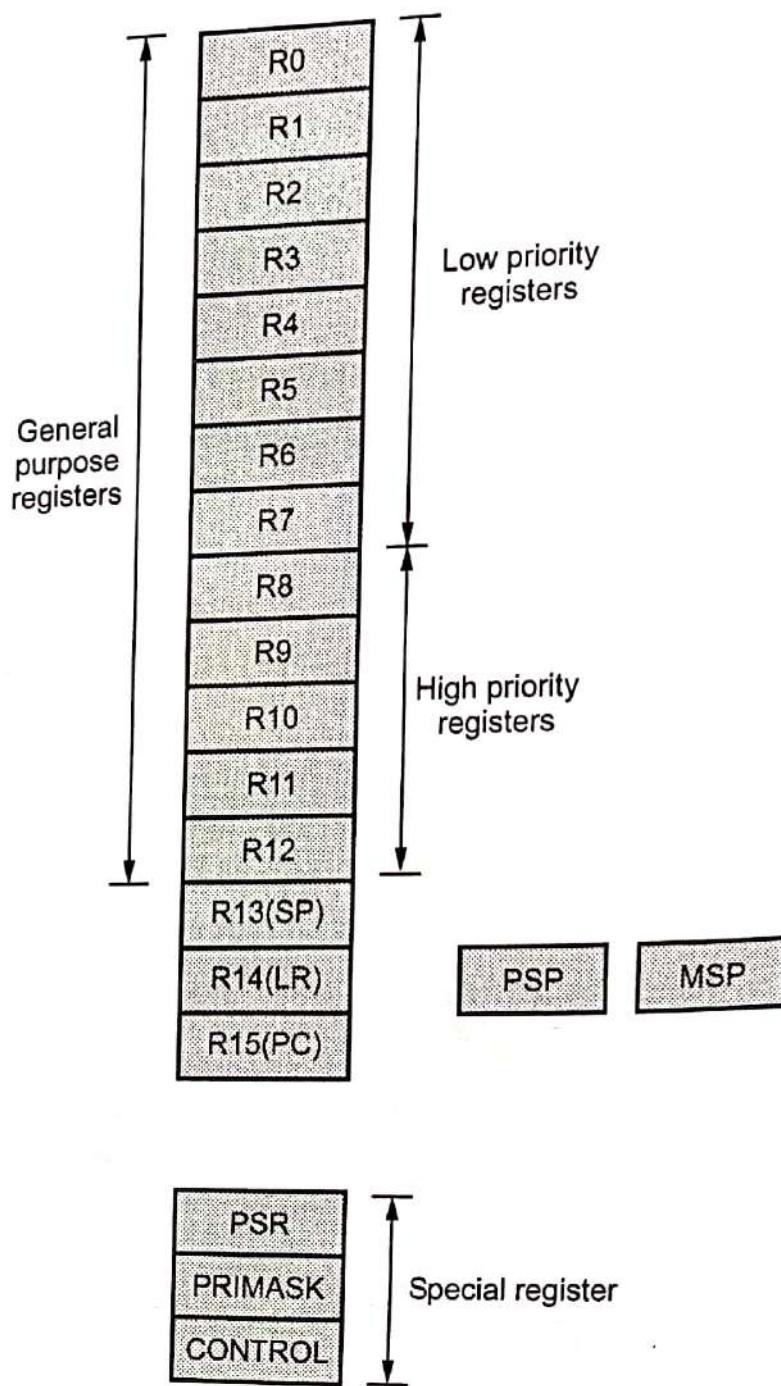
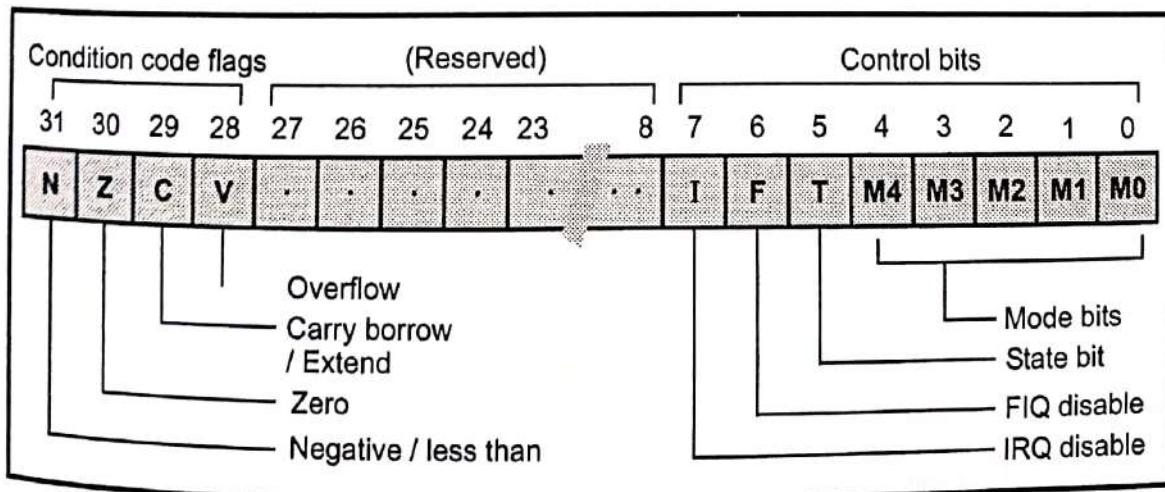

Fig. 2.5.1 Core register set
Fig: 2.5.2 CPSR bit configuration
- Fig. 2.5.1 shows core register sets.
- Program counter register is R15 register.** This register also called Processor Status Register (PSR). R15 contains 24 bits of Program Counter (PC) and 8 bits of Processor Status Register (PSR).
- Fig. 2.5.2 shows CPSR.